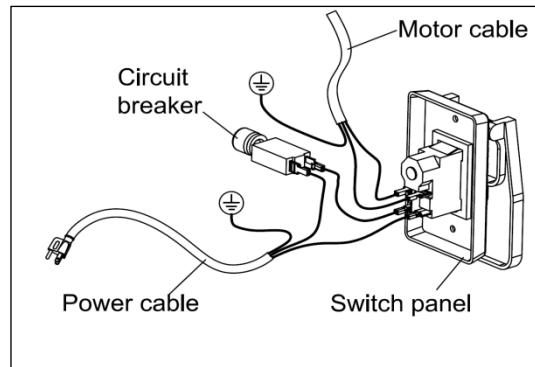

Fig. 21
Since the terminals' wiring positions in the switch box are same for 115V and 230V, we suggest you take photos of the terminals' wiring positions as a reference for the following rewiring. Also if you encounter any wiring problems, please refer to **Fig. 21** or the Electrical Diagram.
d. Then referring to **Fig. 21** or the Electrical Diagram or the photos you've take in Step 1, rewire all the cables to the terminals correctly. Mount the switch box back by tightening the screws.